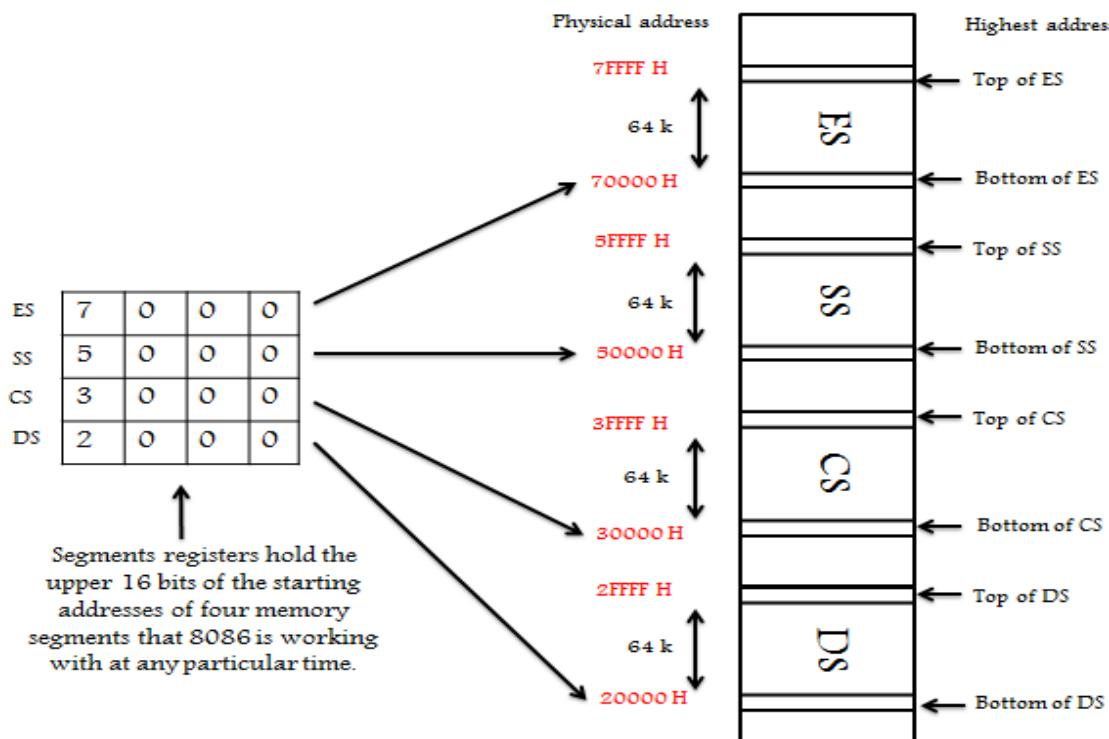

Figure 1.3: Segment Registers Segmentation.
7. Figure 1.3 shows one of the possible ways to position the four 64 k bytes segments within the 1 M bytes memory space of 8086.